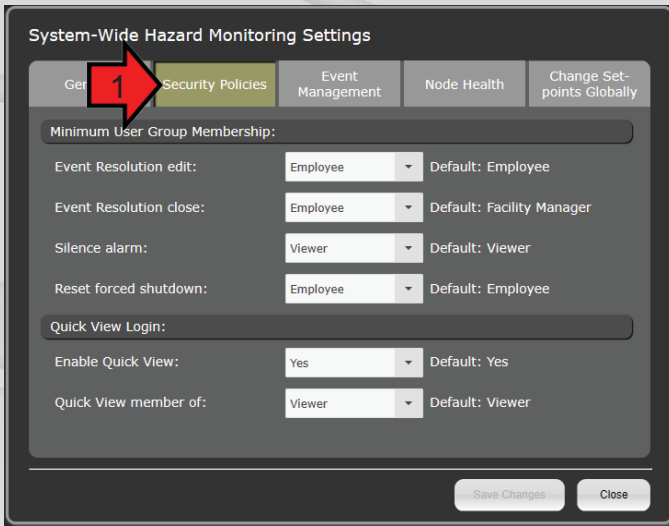

Figure 43
1. Security Policies sets the authorization levels of the different account types. (Figure 43)